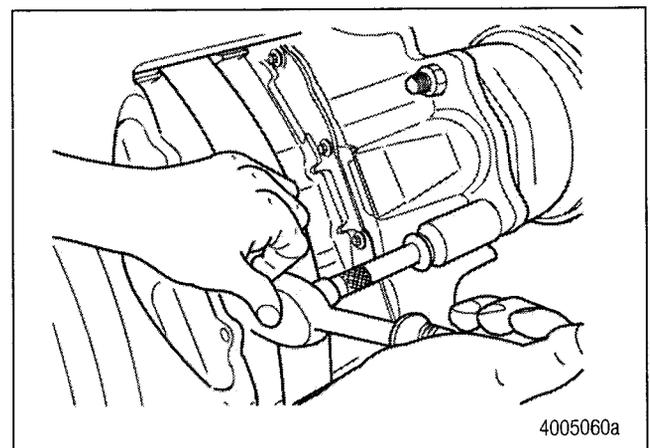

Figure 5
6. Use the correct wrench to remove the air chamber nuts and washers. Figure 5.